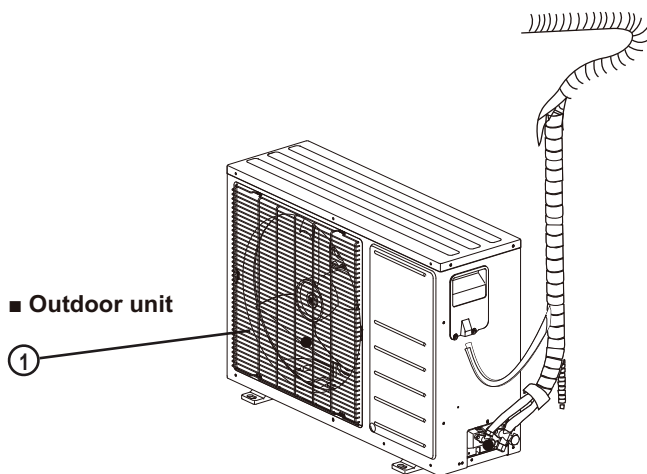

Fig. 3 — Outdoor Unit
- Figure 3 is only a sketch. The actual model may differ slightly.
2. Use a rigid base to support the unit in a level position. If conditions or local codes require the unit be attached to a pad, tie down bolts should be used and fastened through knockouts provided in unit base pan. Refer to unit mounting pattern in Fig. 3 to determine base pan size and knockout hole location. For hurricane tie downs, contact distributor for details and PE (Professional Engineer) Certification, if required.